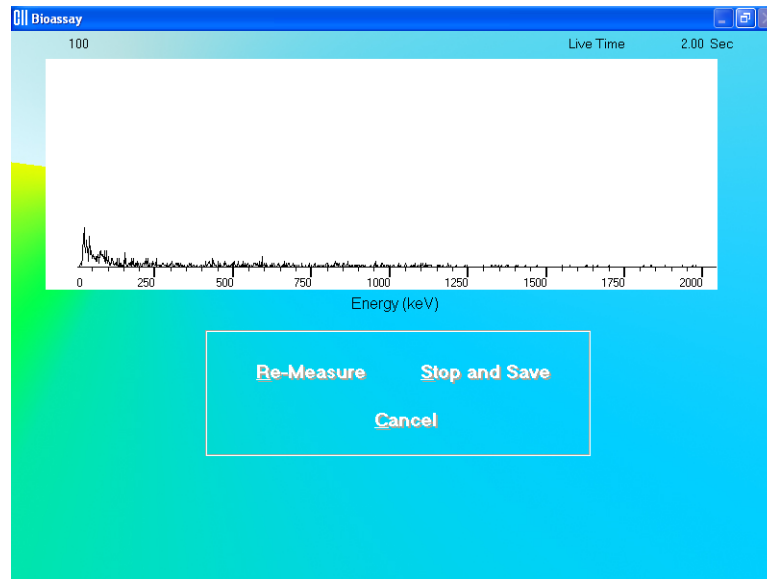

Figure 11-21
- a. Verify that there are no radioactive sources in the area and click the button to measure background counts. The screen appears as shown in Figure 11-21.
To begin counting, click the button. The spectrum is displayed as shown in Figure 11-21 above. To cancel measurements, click the button. The screen then appears as shown in Figure 11-23.